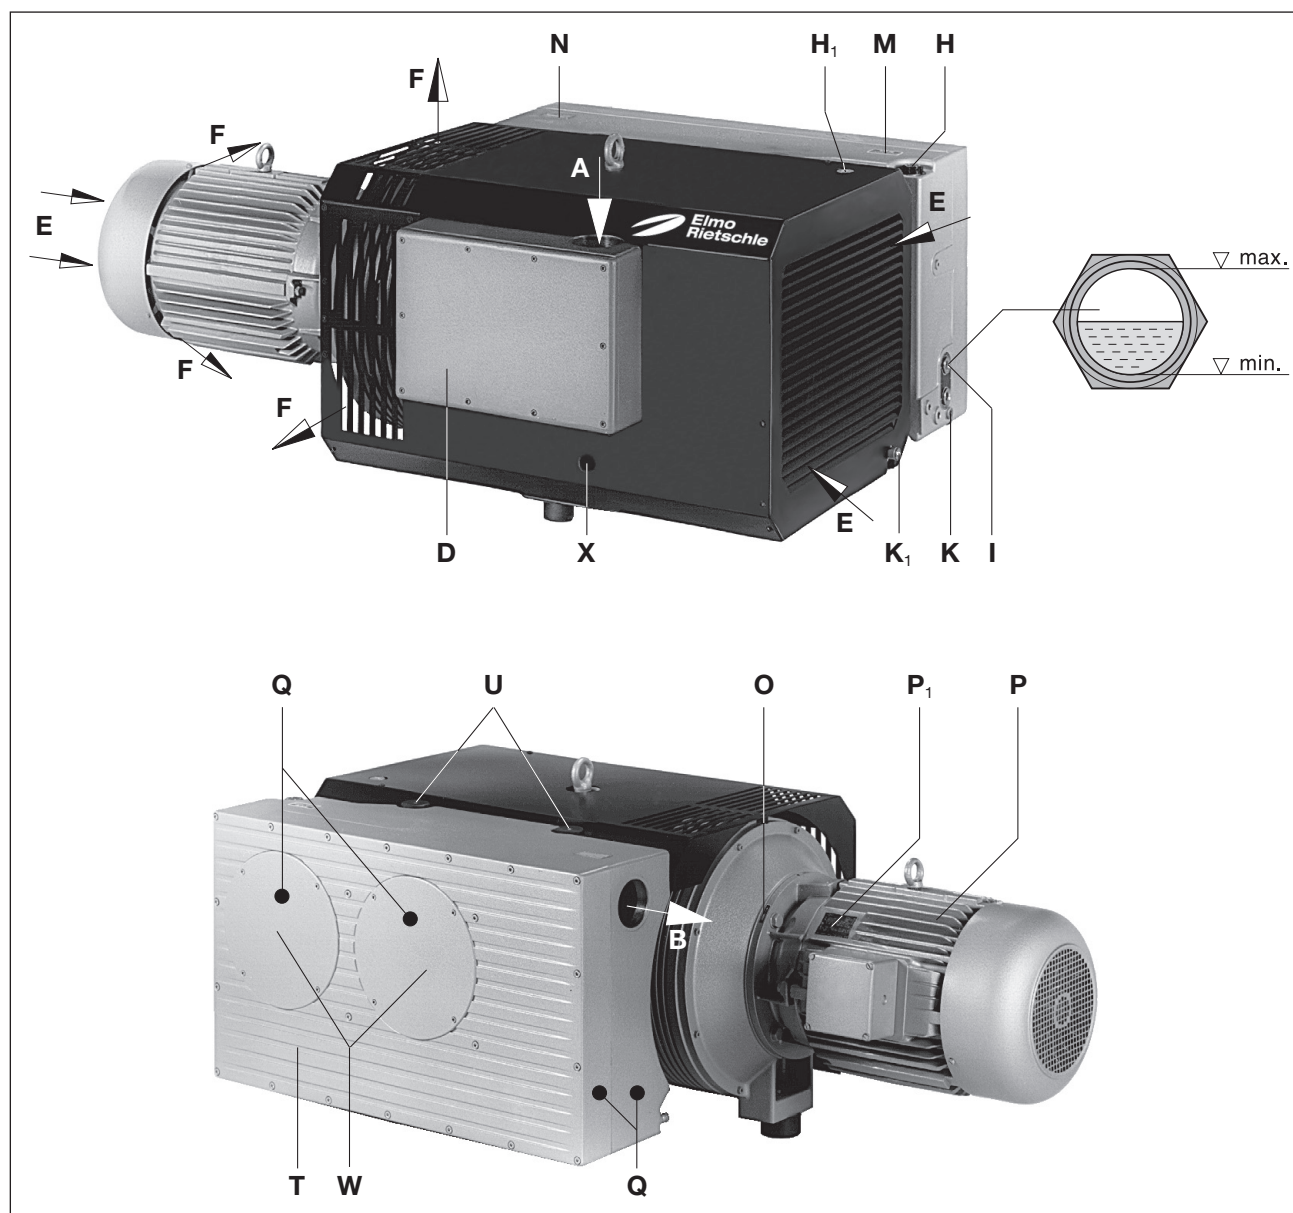

Fig. 2 Vacuum pump V-VC 400 - V-VC 1300
A gas ballast valve fitted as standard (Fig. 2/U) prevents condensation of water vapour in the inside of the pump when low amounts of steam are sucked in when the pump is at operating temperature. A reinforced gas ballast can be provided for higher amounts of water vapour.
The filter housing (Fig. 2/D), oil filling point (Fig. 2/H, H₁), oil sight glass (Fig. 2/I), oil outlet (Fig. 2/K, K₁), gas ballast (Fig. 2/U) and oil remover housing (Fig. 2/T) must be easily accessible. The cooling air inlets (Fig. 2/E) and the cooling air outlets (Fig. 2/F) must be at least 30 cm away from adjacent walls. Discharged cooling air must not be sucked in again. For maintenance work there must be a space of at least 50 cm around the machine.
The air vent (Fig. 2/B) must not be closed or restricted.
- a) The vacuum connection (Fig. 2/A) is on the filter housing (Fig. 2/D).
- b) The discharged air can be freely blown out through the exhaust air hole (Fig. 2/B) or conducted away using a hose or pipe.
- a) Fill the lubricating oil (for suitable types see the „Maintenance“ section) via the oil filling points (Fig. 2/H₁) up to the upper edge of the sight glass (Fig. 2/I).
- a) The motor's electrical data is given on the data plate (Fig. 2/N) or on the motor data plate (Fig. 2/P₁). The motors comply with DIN EN 60034 and are in protection class IP 55 and insulation class F. The appropriate connection diagram is located in the motor's terminal box (not for the plug connection version). The motor data must be compared with the data of the existing mains network (current type, voltage, network frequency, permitted current value).
When the machine is at operating temperature the surface temperatures on the components (Fig. 2/ Q) may go above 70°C.
- ▷ The drive shaft direction of rotation is shown by the rotation direction arrow (Fig. 2/O) on the motor flange.